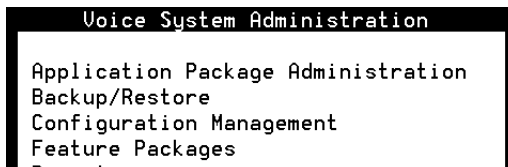

Figure 4-3. INTUITY CONVERSANT V6.0 Menu
The system displays the INTUITY™ CONVERSANT® V6.0 menu (Figure 4-3).
6. Press **(F6)** (CANCEL) until you return to the INTUITY CONVERSANT V6.0 menu. (Figure 4-3).
The system displays the INTUITY CONVERSANT V6.0 main menu (Figure 4-3).
10. Press **(F6)** (CANCEL) until you return to the INTUITY CONVERSANT V6.0 menu. (Figure 4-3).